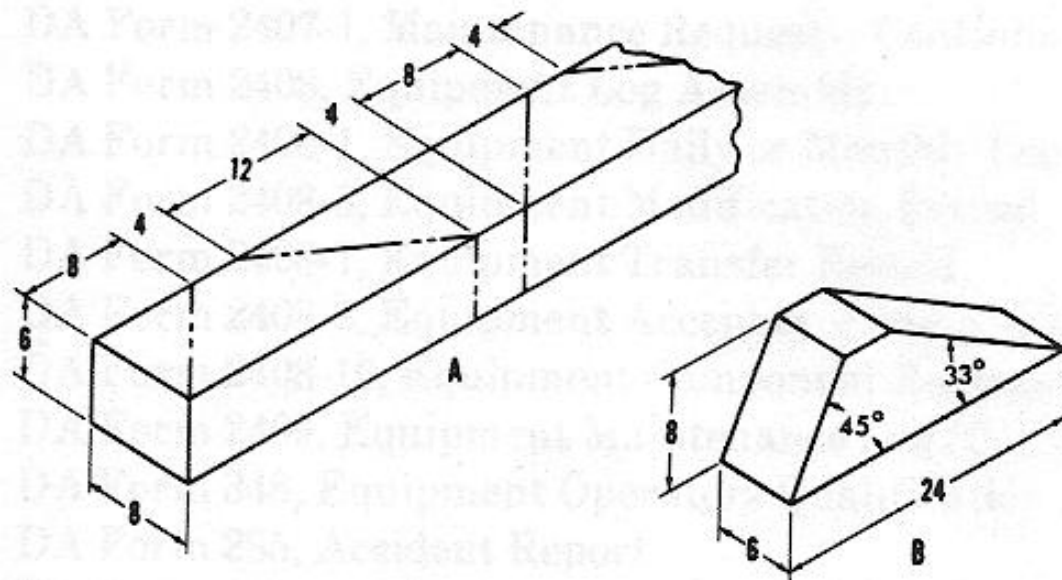

FIGURE 4-2. Cutting chock block from timber.
- (2) Wheel chock blocks. Eight 6 x 8 x 24-inch blocks are required to block the vehicle. Locate the 450 surface of the blocks against the front and rear of each wheel. Nail heel of blocks to flatcar floor using 30-D nails and toenail both sides of blocks with 30-D nails. Chock blocks may be cut from timber, (or railroad ties, when available). Refer to figure 4-2.